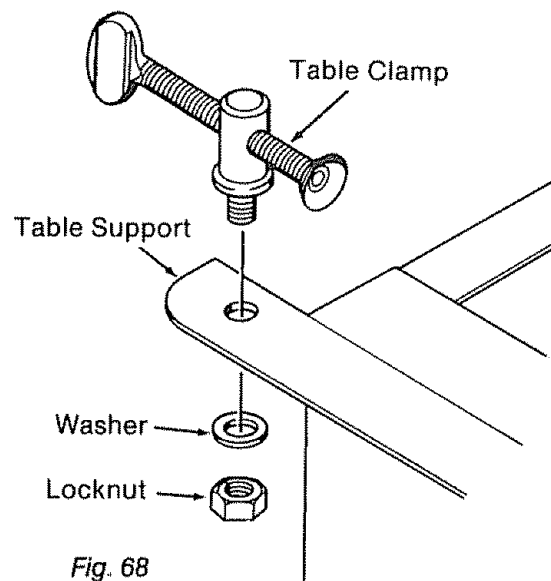

Fig. 68
1. Place the *table clamp* in the hole provided at the rear of the right table support. (Figure 68)
2. Put a *washer* and *locknut* on the *table clamp* and tighten using a 1/2 inch wrench or socket. (Figure 68)
3. Repeat steps 1 and 2 with the left table clamp. (Figure 68)